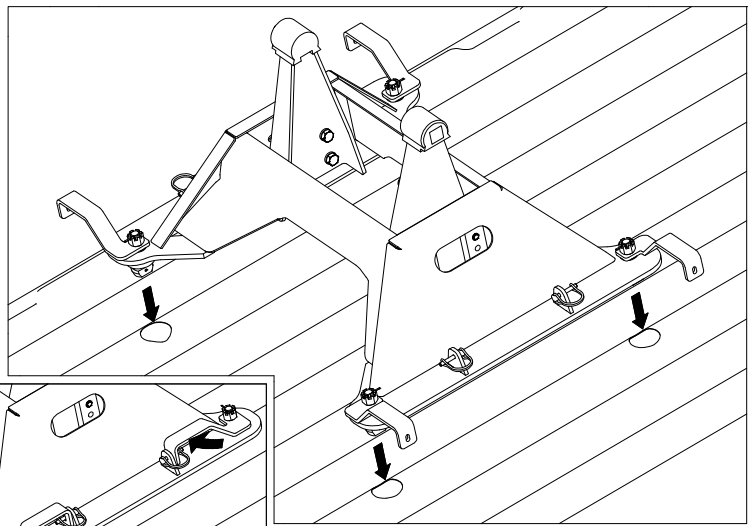

FIGURE C1:
1. Remove the latch pins from each side of the base and rotate the handles out, see Figure C1. Place the base over the attachment points and carefully lower it until the latch cams pass through the floor and the base rests flat against the top of the attachment points.